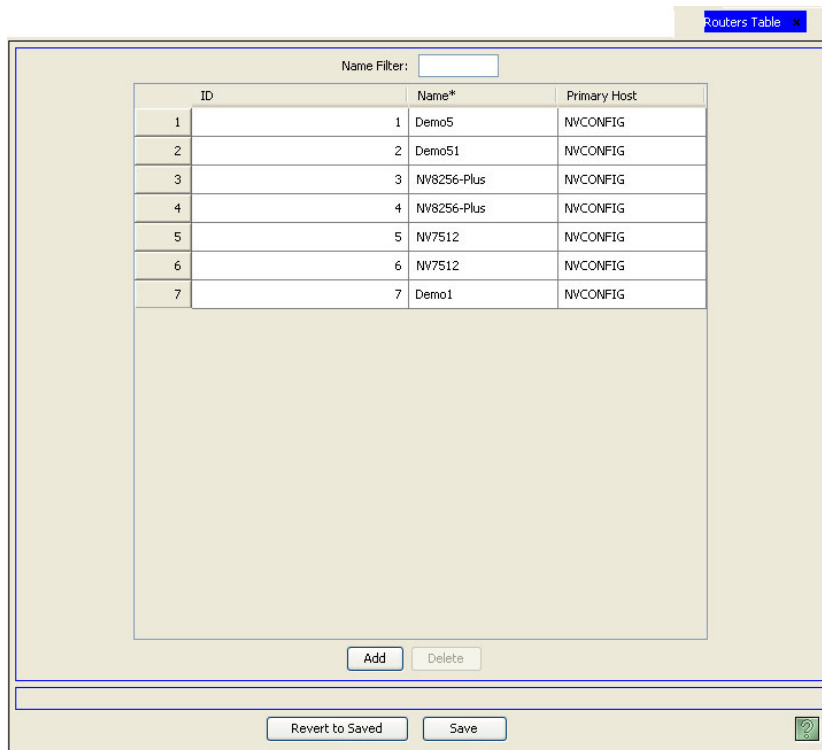

Figure 12-14. Routers Table
- 2 From the navigation area, select the 'Views' pane and then 'Routers'. The 'Routers' table appears, as shown in Figure 12-14.